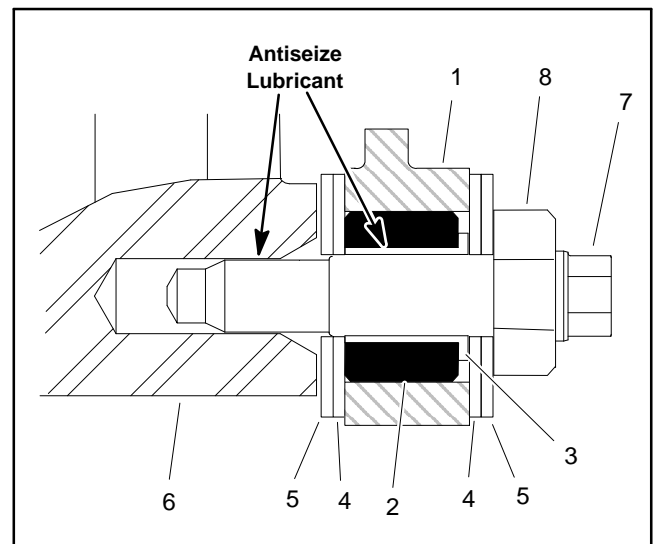

Figure 16
1. If rubber bushing was removed from either cutting unit side plate, apply grease to outside surface of new bushing and install into side plate. The bushing should be installed flush with the inside of the side plate (Fig. 16).
2. If removed, install the nylon bushings (item 15) with flange facing outward. Apply antiseize lubricant to inside of flange bushing.
3. Apply antiseize lubricant to the bedbar threads and the shoulder area of each bedbar pivot bolt (Fig. 16).
**IMPORTANT: When installing washers (items 16 and 17), make sure that plastic washers are positioned on either side of the cutting unit sideplate (Fig. 16).**
4. Slide one (1) metal washer (item 17) and then one (1) plastic washer (item 16) onto each bedbar pivot bolt.
5. Position bedbar into cutting unit. Make sure that the top of each bedbar arm is between washer (item 11) and adjuster screw flange (item 4).
6. Position one (1) metal washer (item 17) and one (1) plastic washer (item 16) between bedbar and each cutting unit side plate (Fig. 16).
8. Tighten both lock nuts (item 10) until outside washers do not have any endplay but still can be rotated. Do not over tighten the lock nuts as this can distort the side plates and affect reel bearing adjustment. When the lock nut is correctly tightened, there may be a gap at the inside washers.
9. Tighten the lock nut (item 13) on each bedbar adjuster assembly until the adjuster spring is fully compressed, then loosen lock nut 1/2 turn.